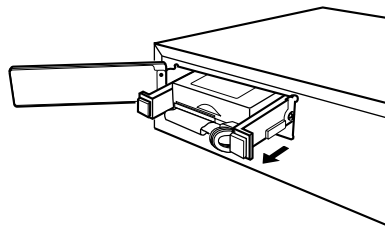

Fig. 3
- Draw the HDD tray forward by about 5.5cm so that it does not get in the way of the removal work. (Fig. 3)
- 作業の妨げにならないように、HDDトレイを約5.5cm引き出します。(Fig. 3)